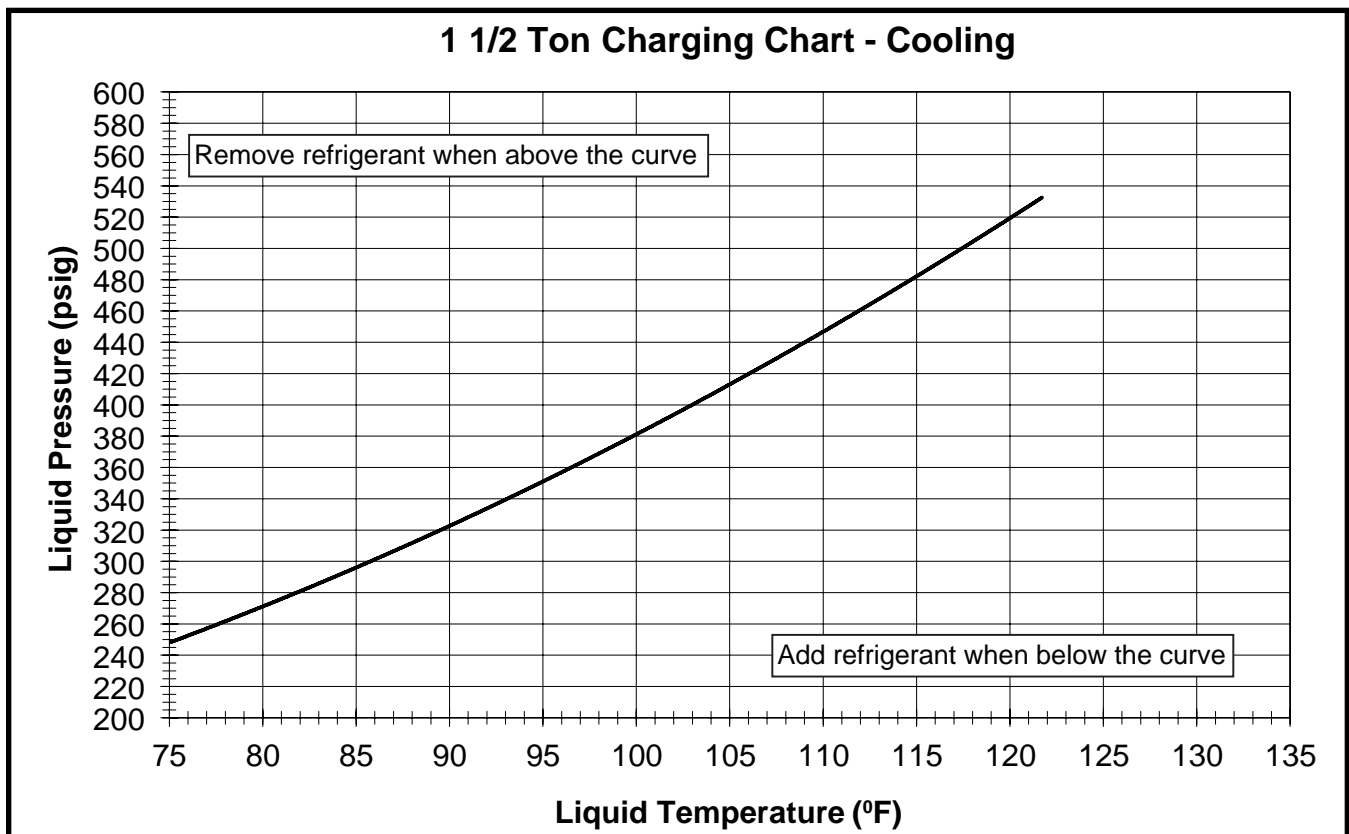

Figure 5. Charging Chart for 1.5 Ton Units (TXV Matches)
- Cooling mode charging charts are applicable only to matched assemblies of this equipment and listed airflows for the indoor coil. Outdoor units with non-AHRI listed indoor coils are not recommended and deviations from rated airflows or non-listed combinations may require modification to the expansion device and refrigerant charging procedures for proper and efficient system operation. Refer to Figures 5 - 11 (pages 10 - 13) and Tables 5 - 11 (pages 15 - 16) for correct system charging.
3. Determine the required liquid refrigerant pressure from Figures 5 - 11 (pages 10 - 13).
- Charging charts are valid for a variety of indoor, return air conditions and are most influenced by the outdoor ambient temperature, outdoor fan operation and the unit operating voltage. Before using these charts, make sure the unit is in a stable operating mode. As shown in the charging charts (Figures 5 - 11, pages 10 - 13), the ideal system sub-cooling can vary over the range of operation. Reference the charts to determine the ideal amount of sub-cooling for a given liquid pressure. Units charged to other values will not perform at the rated unit efficiency (EER) or rated Coefficient of Performance (COP) in heating mode.